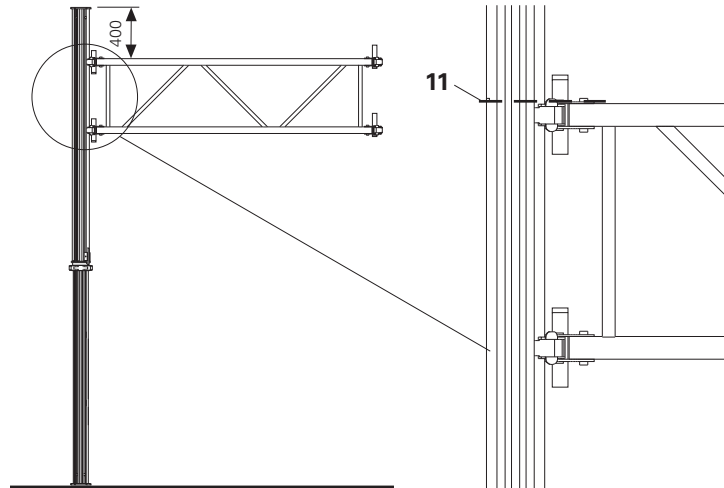

Fig. 8
Arrange the Frame MRK with the top wedge connections on the circular-shaped recesses (11) of the outer tube. This results in a distance of 40 cm to the base plate. (Fig. 8)